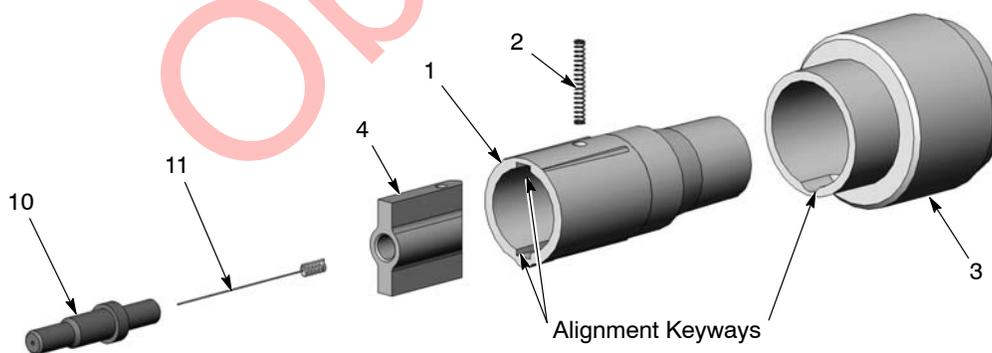

Figure 7-5 Electrode Support Sleeve Replacement
- The electrode support consists of items 1–4 shown in Figure 7-5.
- The support assembly (3) contains a resistor. If the resistor fails, the entire assembly must be replaced.